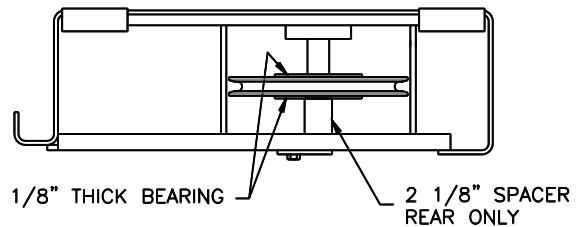

Fig 5 – Rear Single-Stack (idler runway)
- 11) Reinstall the idler runway sheaves, with one plastic bearing above and below each sheave per figures 5 & 6. **Note:** use one 2 1/8" long spacer at the idler rear sheave only.